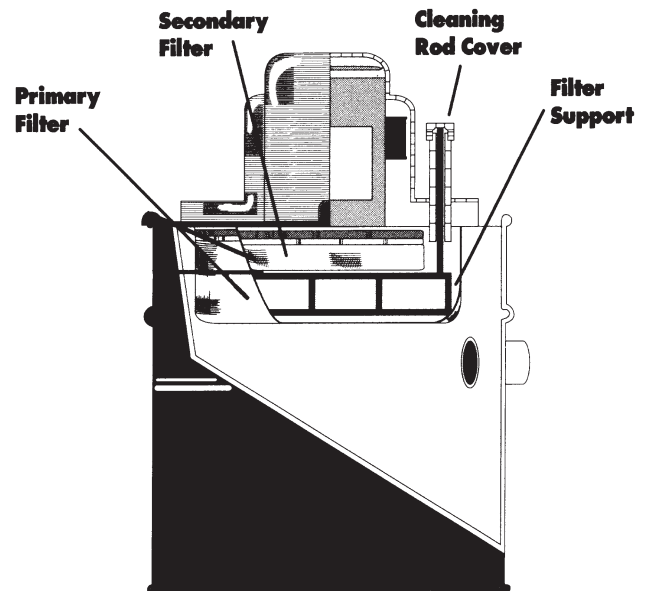

Fig. 2
STEP TWO: Take the rod of the filter support basket and slide it through the small hole in the lid. The filter support basket should be between the primary and secondary filters. Take the larger, primary filter **with the stamped side IN**, and place it over the filter support basket (part #9p23) and fasten it securely with the 10" clamp to the base of the lid. **NOTE:** The primary filter's bottom seam and the filter support basket should line up and cross the center of the lid. Where the filter attaches to the lid, there should be a minimal amount of wrinkles. The filter and lid should look like Fig. 2 when completed. **(NOTE: ALWAYS CHECK FILTER BEFORE EACH USE TO ENSURE THAT IT FITS SNUGLY IN PLACE AND IS IN GOOD CONDITION.)**
- **The primary and secondary filters may be cleaned without removing the lid.** Agitation of the filter support basket, located between the primary and secondary filters allows both filters to be cleaned without removing the lid. (Fig. 2)